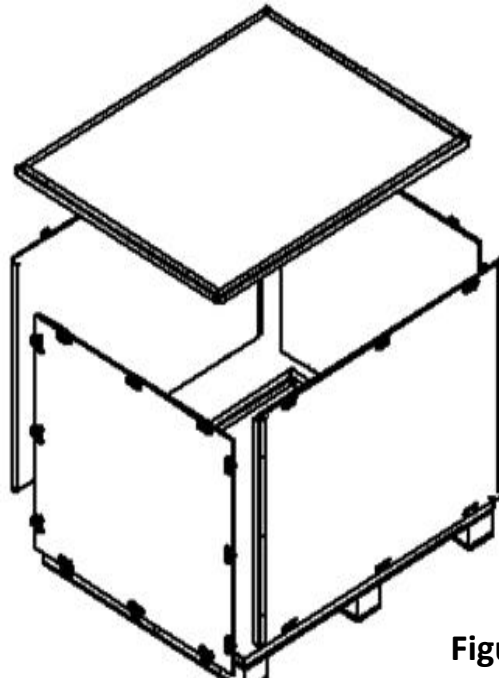

Figure 5
- ◇ Check the packaging damage and the rain and other damage phenomenon, using the tool unpack the packing as shown in Figure 5, please dispose of packaging box, lest the environmental pollution.